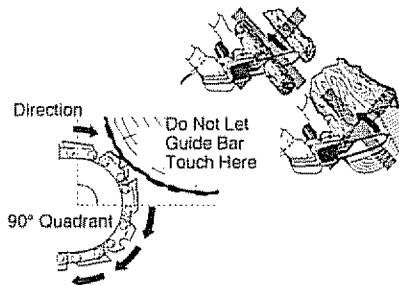

Figure 1 - Kickback Hazard Example: Do Not Let Nose of Guide Bar Touch Object While Chain is Moving
- Do not let guide bar nose touch anything when chain is moving (see Figure 1)